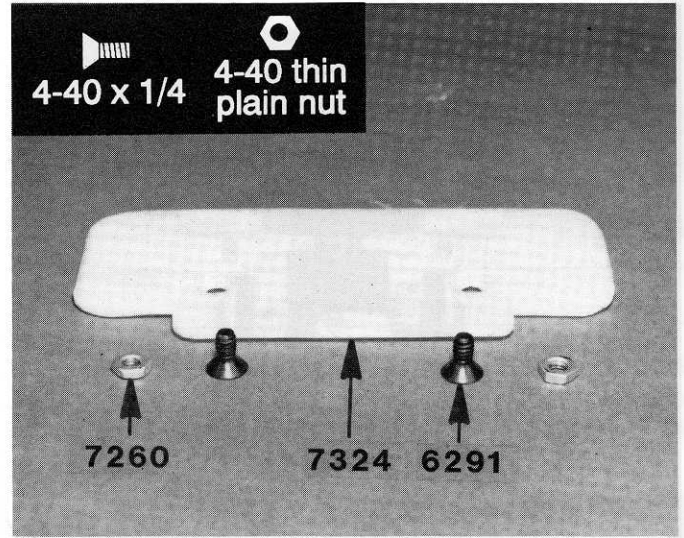

Fig. 34
□ **Figs. 34 & 34a** Install the #7324 front bumper to the chassis nose, as shown, using two #6291 4-40 x 1/4" flat head screws and #7260 4-40 thin plain nuts. You may have to trim a little off the bumper to make sure the A-arms clear.